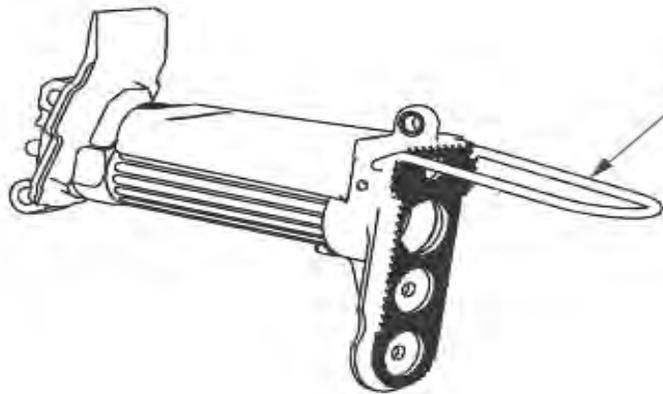

Figure 5. Collapsible Buttstock and Shoulder Rest.
7. Spread shoulder rest (Figure 5, Item 1) apart with both hands and place into position on buttstock/ buffer assembly.